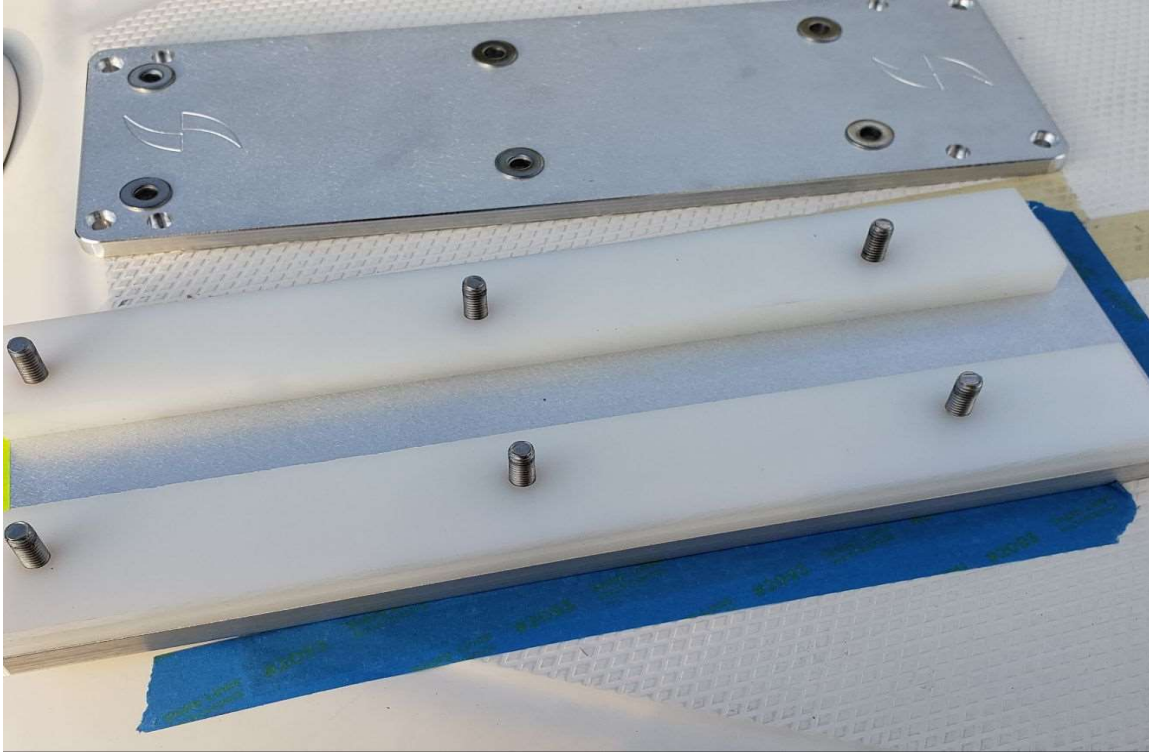

Figure 10.
- Remove the top of the carriage assembly as shown in Figure 10